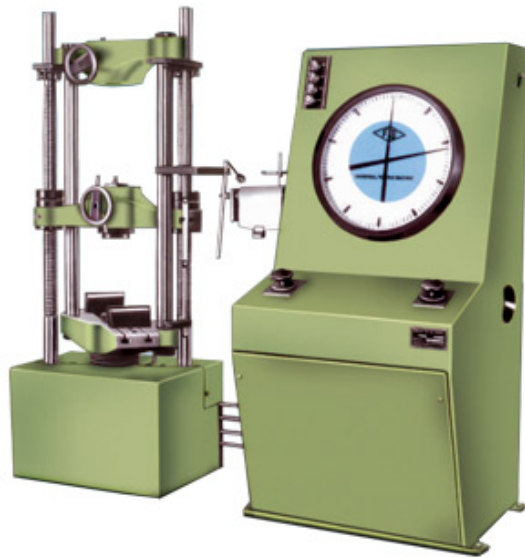

Fig 1 Universal Testing Machine
- 1) Universal Testing Machine (Fig. 1),
mechanically or hydraulically depending on the type of testing machine. Fig. 1 shows a hydraulically operated tensile testing machine (Universal Testing Machine).
- 1) Impact testing machine (Fig. 1),